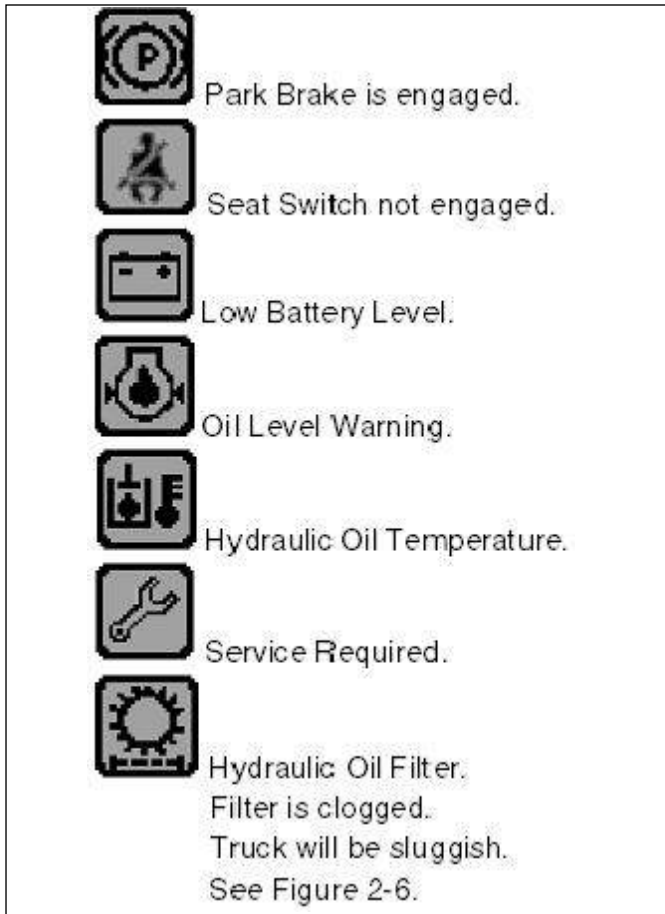

Figure 4-23: Warning Icons
3. After the forklift is running and when the forklift and system are functioning correctly the row of “Icons” across the top of the “System Active” screen will not be seen. Each warning icon is described for your future reference. See Figure 4-23.